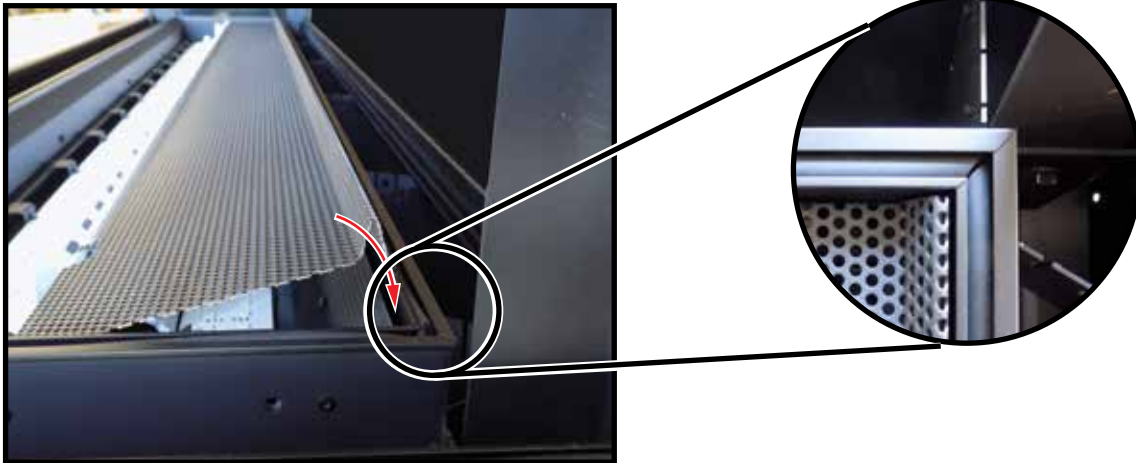

Figure 37: Fitting edge of the burner into slot.
2. Fit the edges of the long pieces fully into the slots as indicated in the inset of Figure 37.